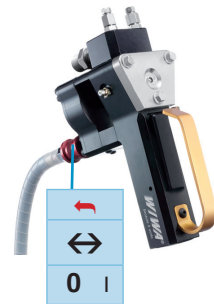

Fig. 2.6
**Air pressure valve on spray gun, (Fig. 2.6)**